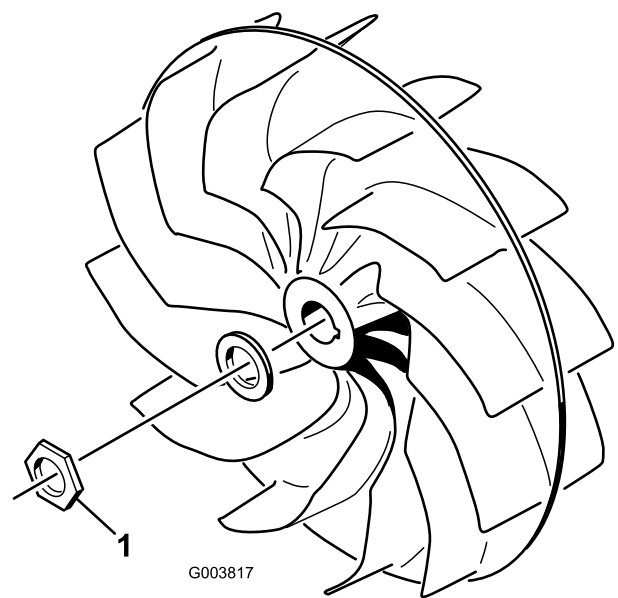

Figure 16
- The fan mounting nut (Figure 16) must be torqued to 500 ft-lb.